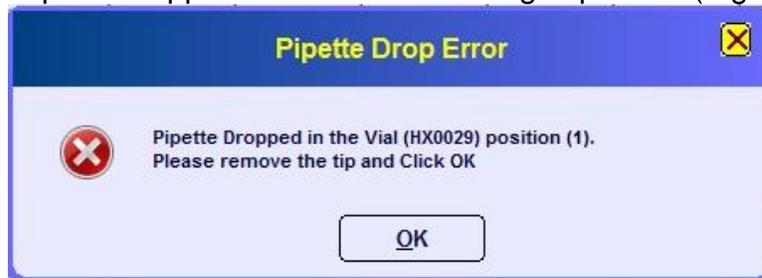

Figure 69: System Error when Pipette dropped in DAB Buffer during aspiration
a. Pipette dropped in DAB Buffer during aspiration (Figure 69:)